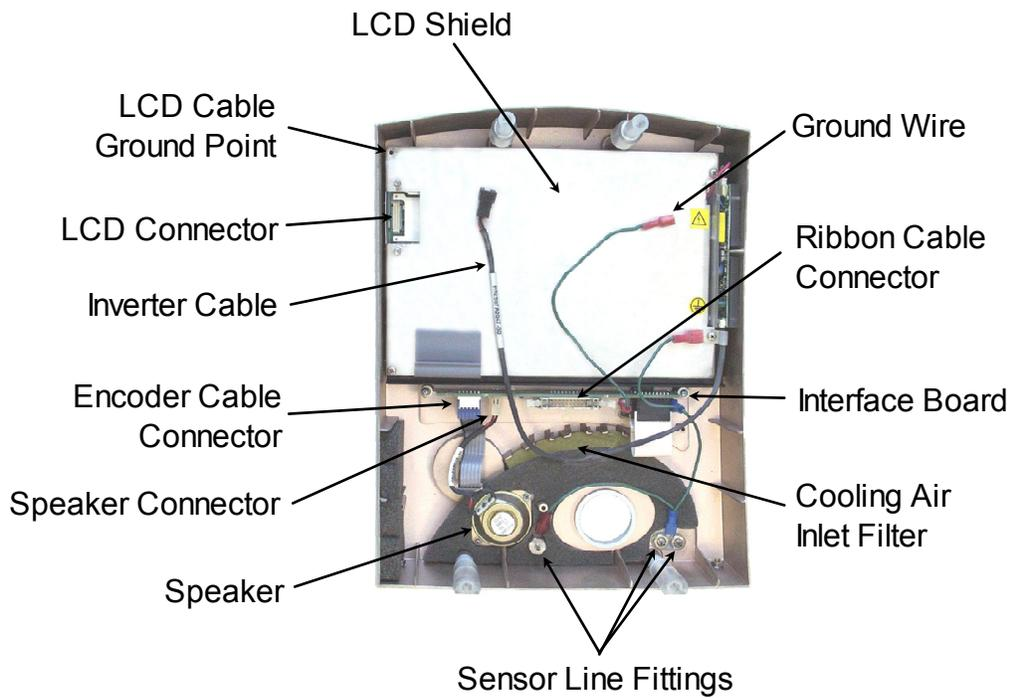
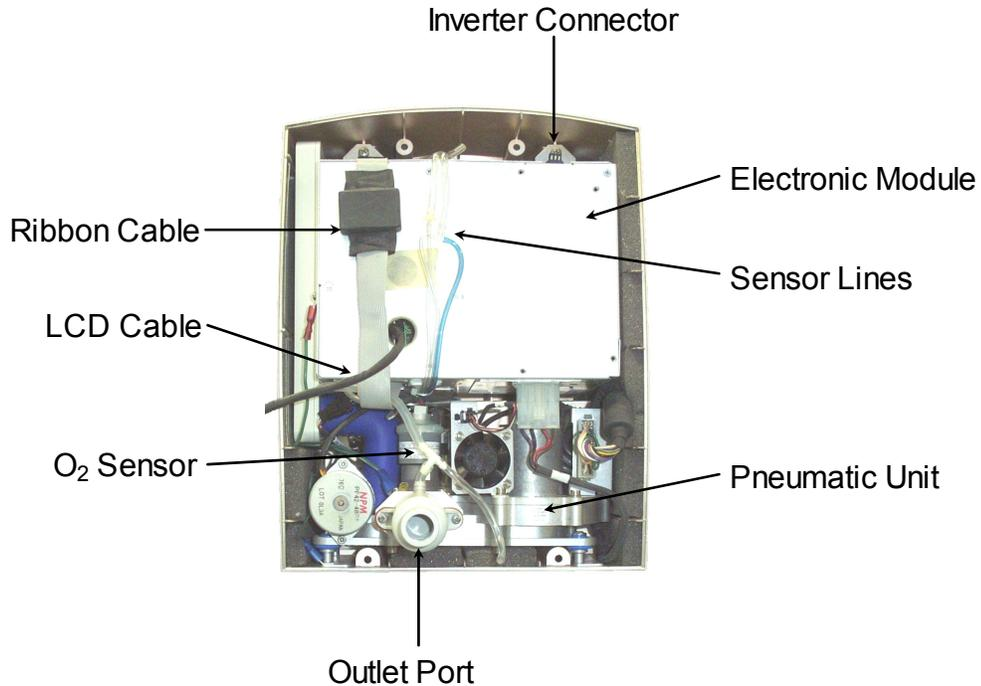

Figure 7-7: Front Enclosure (Inside View) #1
Figure 7-8: Rear Enclosure (Inside View) #1
6. Disconnect the three tubes from the barbed fittings along the bottom of the inside of the front enclosure. Be sure to note where they were connected. (See Figure 7-7, page 116).
7. Disconnect the ribbon cable from the interface PC board located in the middle of the front enclosure. (See Figure 7-7 and Figure 7-8, page 116).
9. Disconnect the inverter cable from the top of the electronic module. (See Figure 7-7 and Figure 7-8, page 116).
11. Detach the green LCD cable ground wire from the LCD shield by removing the (1) 3mm x 14mm Phillips head screw and lock washer located in the corner near the LCD connector.
12. Use the nutdriver to remove the (2) 4mm lock nuts from the LCD connector location on the front enclosure (see Figure 7-7, page 116). Remove the aluminum U-shaped bracket from the LCD connector site and pull out the LCD connector and cable.